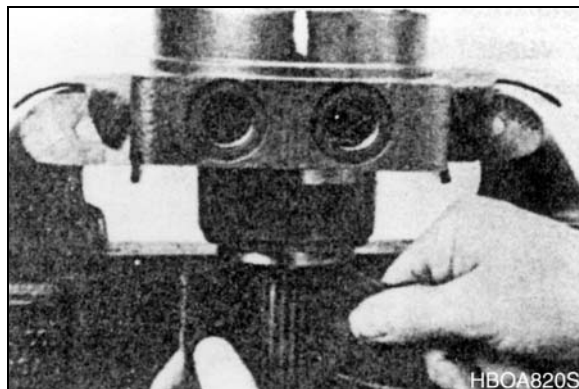

Figure 21
14. Check exposed portion of coupling shaft (12) to be sure you have removed all signs of rust and corrosion which might prevent its withdrawal through the seal and bearing. Crocus cloth or fine crocus cloth may be used. See Figure 21. Remove any key (12A), nut (12B), washer (12C), bolt (12D), lock washer (12E), or retaining ring (12F).